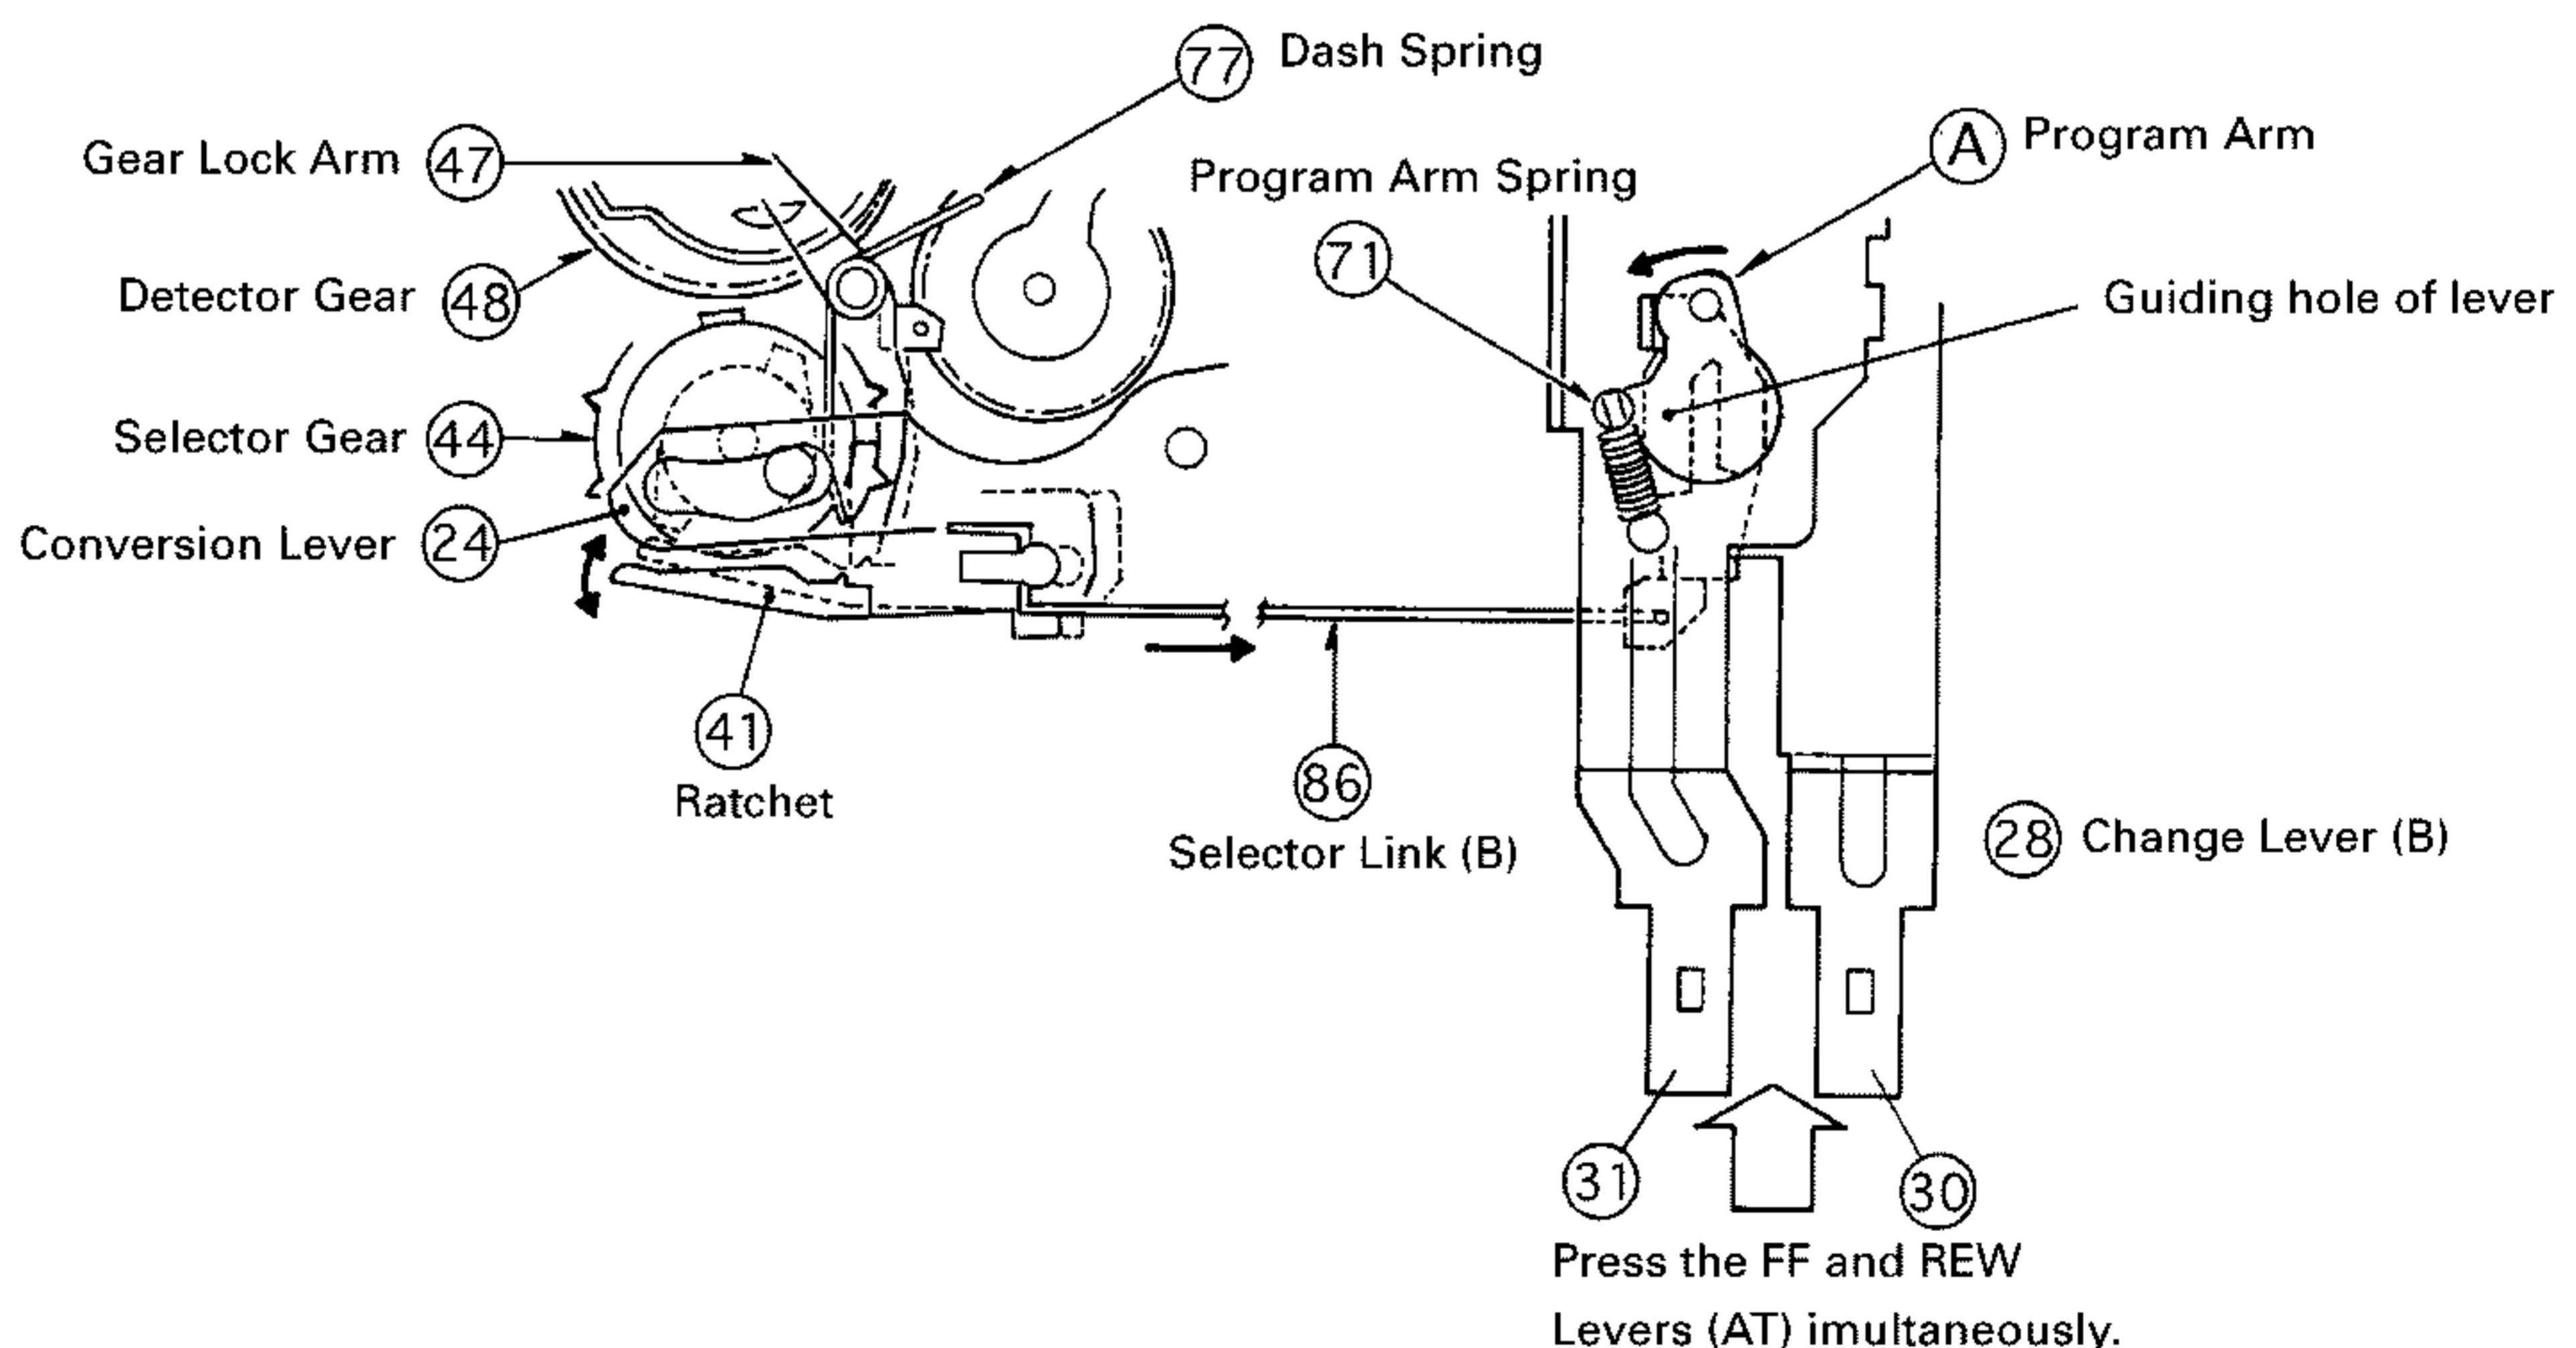

Fig. 6
- (1) Pressing the FF and REW Lever (AT) (30 and 31) simultaneously moves the Program Arm (A) in the direction shown by the arrow, by the pressure of the Program Arm Spring (71). (Fig.6)
- (2) The Program Arm (A) is then moved further by the guiding hole of the lever.
- (3) The movement of the Program Arm (A) is conveyed to the Change Lever (B) (28), Selector Link (B) (86), Ratchet (41) and then Gear Lock Arm (47).
- (4) The Gear Lock Arm (47) is unlocked. The Dash Spring (77) causes the Selector Gear (44) to rush and engage with the Detector Gear (48). The Selector Gear (44) rotates.
- (5) The projecting portion of the cam of the Selector Gear (44) taps the Ratchet (41). The Gear Lock Arm (47) is released from the Ratchet (41), returns to the given position, and locks the Selector Gear (44).
- (6) Due to the Lock of the Gear Lock Arm (47), the Selector Gear (44) rotates by 180 degrees and stops.
- (7) By a half rotation (180 degrees) of the Selector Gear (44), the Conversion Lever (24) and the FR Changing Arm Assy (4) moves.
- (8) The Pinch Arm (F) Assy (PS) and (R) Assy (PS) (14 and 13) and the Slide Switch(SW3) (10) are switched by the FR Changing Arm Assy (4). At the same time, the Head(HD1) (98) is moved upward and downward by the linked Adjuster Link (X) (46). The TU Gear Arm Assy (49) is switched by the FR Arm (A) Assy (10) and FF Arm (42) to change the direction of rotation (FWD and REV) of the Reel Spindle Assy (D) (15).